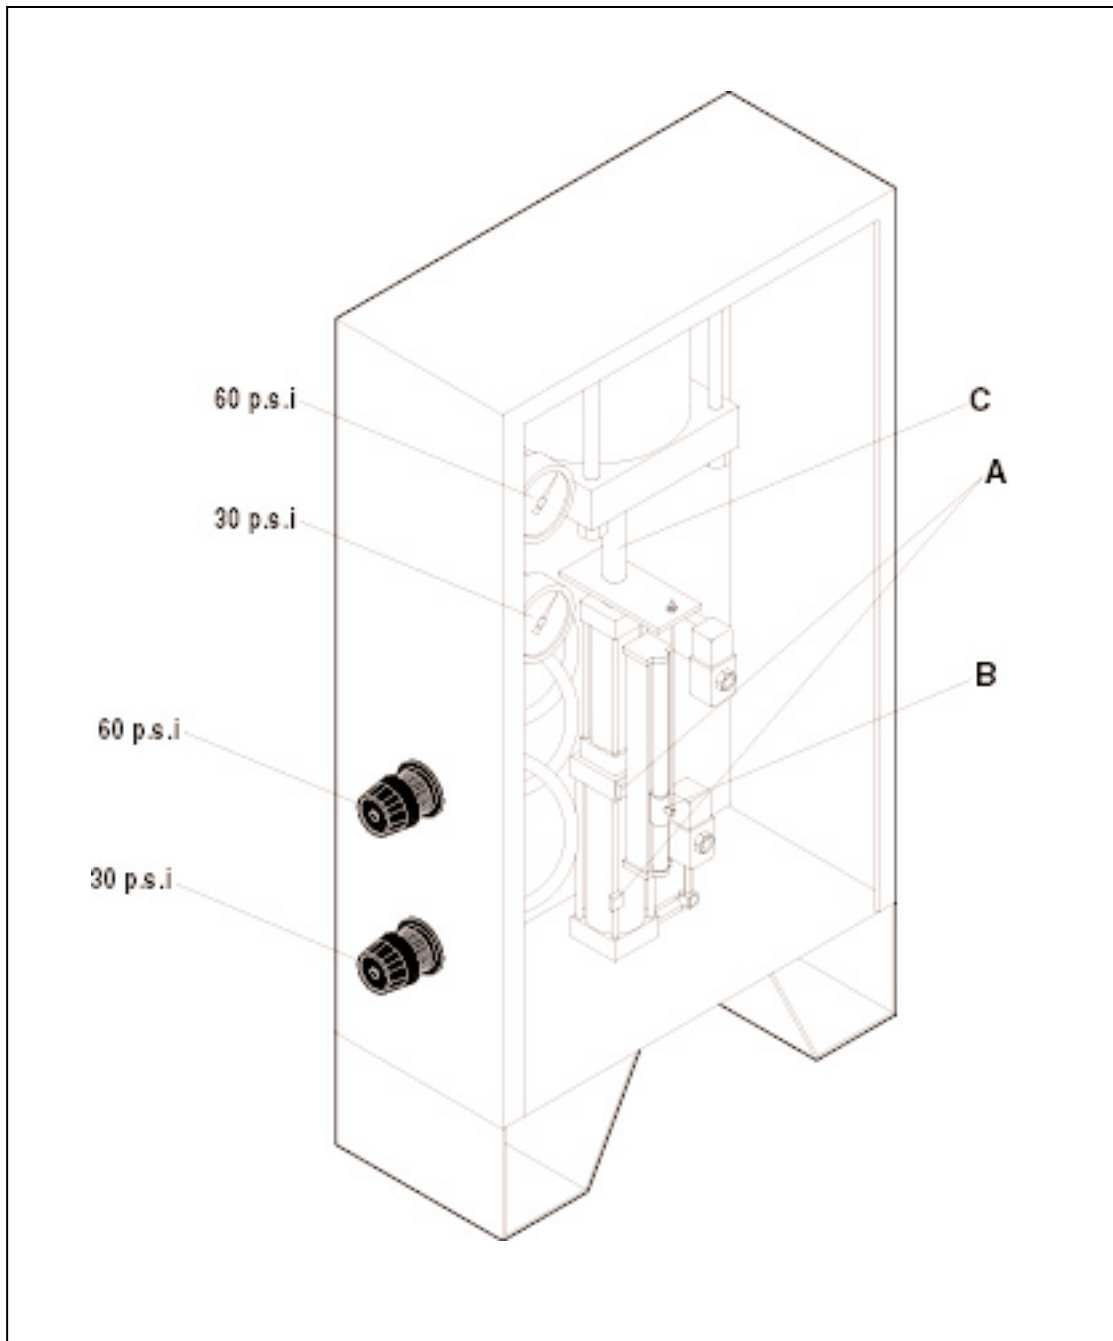

Figure 12.2 SMARTPAC PANEL.
- 12.1.2.9 Set air pressure for rod end of cylinder to 60 PSI and Cap End of cylinder to 30 PSI (see figure 12.2).
To adjust transducer (see figure 12.2):